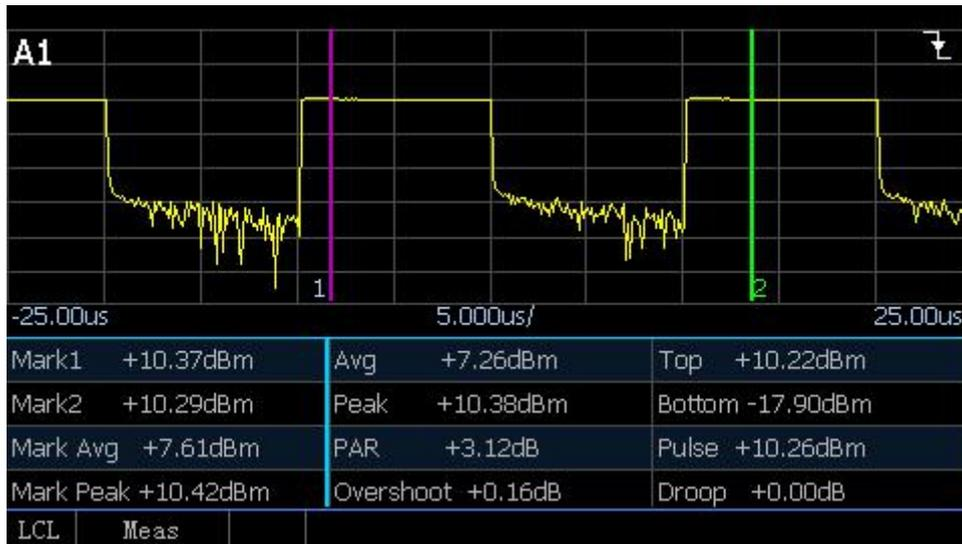

Fig. 3.2 Automatic measurement of power parameters in several periods
- 6) Set [Channel]>[Trace Ctrl] to enter the trace control interface and set [Meas Para] >[Pwr] to obtain display of several waveforms and automatic measurement of power parameters as shown in Fig. 3.2.